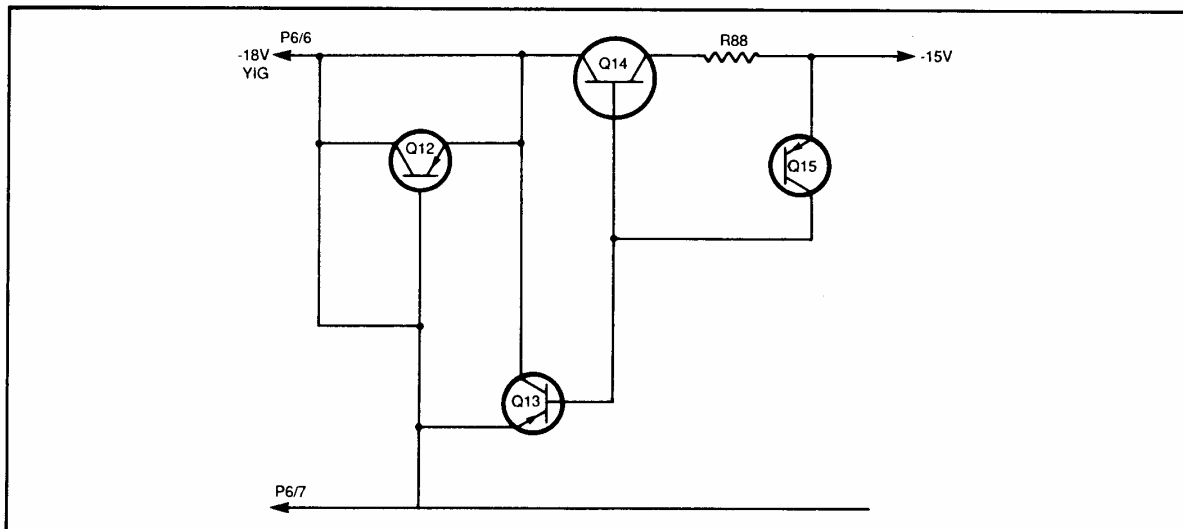

Figure 8-48. YIG Supply Circuit
4. The YIG Tune Supply Circuit supplies the Main Coil Driver Circuitry with the -15V needed to tune the YIG oscillator. It takes a separate -18V supply voltage and, using a simple series regulator circuit based around Q14 (Figure 8-48), gives a regulated -15V output. The output current has been limited to a value of approximately 1.6A at -15V. The current limiting resistor is R88.